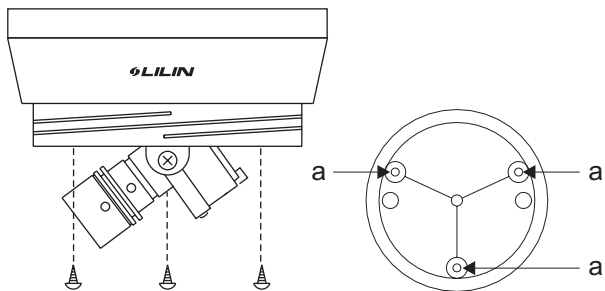

FIG. 1
1. Put the provided screws (M3.0 x 25, wooden screw) through the holes marked as "a", and fix the base in the desired area (FIG.1).